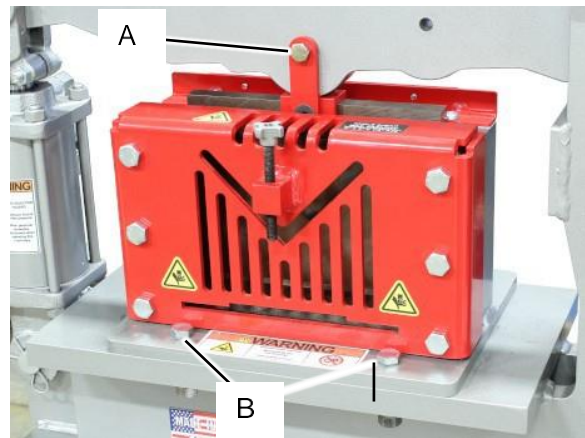

Figure 8
Referring to Figures 8 - 11:
3. Remove the blade to rock arm pivot bolt (Fig. 8, A).
4. Remove and retain the four bolts (Fig. 8, B) mounting the shear station to the frame table.